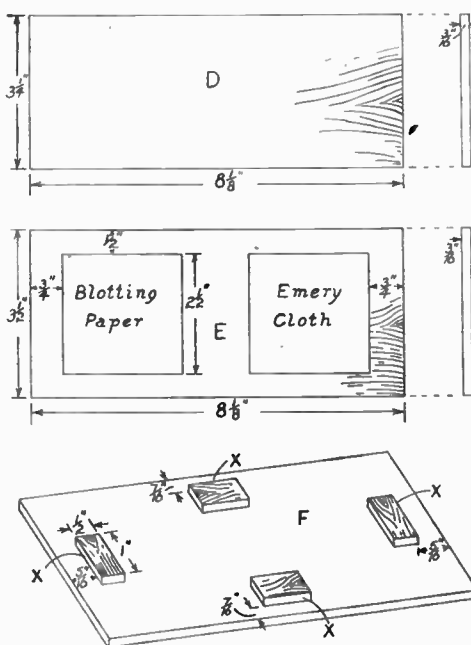

Fig. 4—Dimensions for the top and bottom
The bottom for the box is indicated in (D) Fig. 4, and simply consists of a piece of plywood cut carefully to size $8\frac{1}{2}$ ins. by $3\frac{1}{2}$ ins. Well smooth up the piece when cut, and glue it in position with an overlap of the edges $\frac{1}{8}$ in. all round.
Details of the box lid top are given in (E) and (F) Fig. 4. Cut a piece of plywood
$8\frac{1}{2}$ ins. by $3\frac{1}{2}$ ins., as indicated in (E) Fig. 4, and the positions of the blotting paper and emery cloth are also indicated. The blotting paper and emery cloth are fixed by a little glue applied along the edges.
Next cut four pieces of plywood $1\frac{1}{2}$ in. by $\frac{1}{2}$ in., and carefully glue them on the underside of the lid, in the positions shown in (F) Fig. 4. The edges of the pieces marked (X) in view (F) Fig. 4, are carefully filed until the lid fits nicely in position on the box top.
cemented together, but merely laid end to end, and the trench in which they lie must be filled with light soil, not heavy impervious clay. With small lawns one pipe taken diagonally across with a branch to each corner will generally do all that is required (Fig. 4). Bigger lawns need more considered treatment.